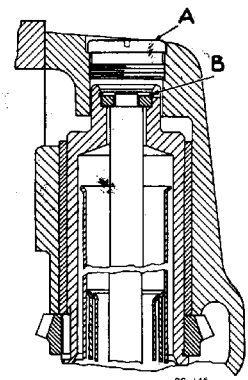

Fig. 3
1. Remove screw "A" in the boss on top of the gear shifter bracket. (Fig. 3.)